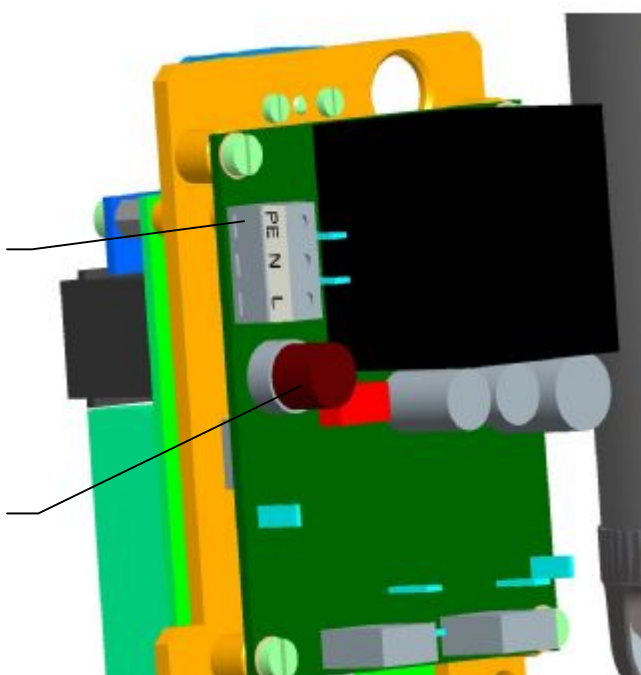

Fig.2
- outside and inside ground terminal must be connected for safe operation of the actuator. The position of the outside and inside ground terminal can be seen in **Fig. 2 2a, 2b, 2c, 2d**. For forcing - in wires in external ground terminal be needed use pliers HP3 for insulated eyelet (firm CEMBRE).
Actuator power supply board is installed with power supply fuse (F3). Location of the fuse on the power supply board can be seen in Fig.2.
- Set the actuator (A) and the valve (B) to the position "closed".
- Loosen and unscrew two screws (5) on the actuator shaft (3) and disconnect the coupling clamping parts (8)
- Screw the coupling nut (8) onto the valve output shaft (6) (max. 28mm) to have an allowance between the coupling nut (9) and the actuator shaft (3) after the actuator is sat on.
- Place the actuator (A) onto the valve (B) and fix the actuator slightly with the screws (4a), or with the central nut (4) (according to shape of connecting flange of EA) in the way you be able to move it.
- By turning hand wheel (1) move end shaft EA (3) toward thread coupling (8) screwed onto valve output shaft (6) (or unscrew thread coupling)
- Put the clamping parts of the thread coupling (8) on, and tighten the both coupling screws (5) to have the coupling nut able to rotate
- Tighten the screws (4a), or central nut (4) with the cross system to fasten the actuator (2) and valve (7) flanges.
- Check the connection diameters in accordance with the Fig. 2.
- Unscrew the coupling nut (8) by one more revolution (to create the pre-stress against the valve seat), and tighten the coupling screws (5) firmly